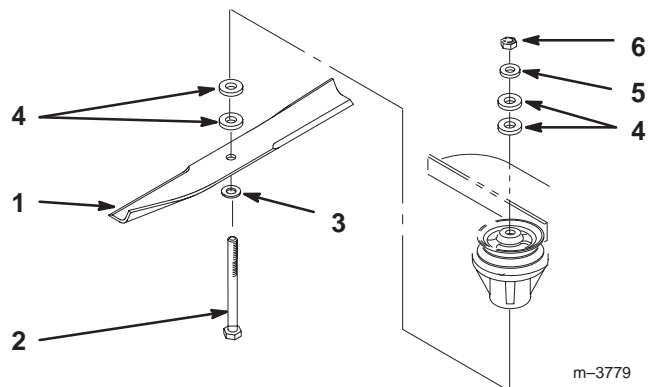

Figure 34
Hold the blade bolt with a wrench. Remove the nut, blade bolt, cone washer, blade, spacers and thin washer from the spindle (Fig. 34).
1. Place the blade onto the bolt, over cone washer. Select proper number of spacer(s) for height-of-cut and slide bolt into spindle (Fig. 34).
2. Install remaining spacer(s) and secure with thin washer and nut (Fig. 34).